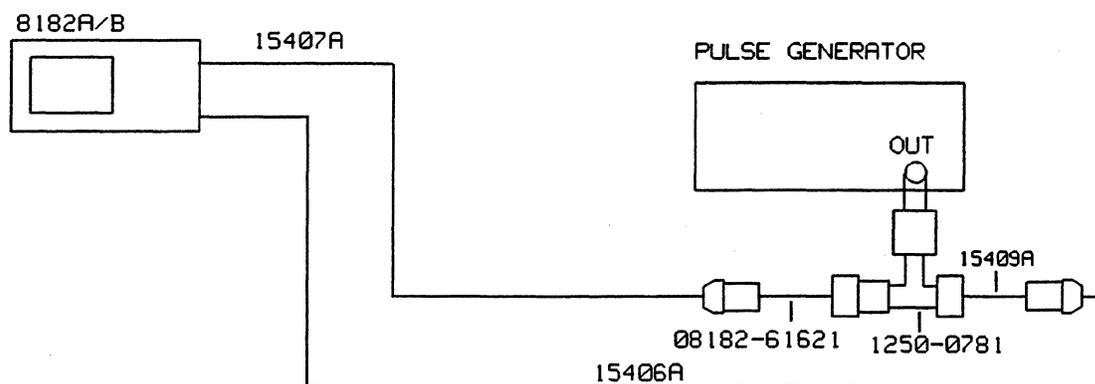

Figure 12-3. Test Setup for the Sampling Point Accuracy and Skew Test
9. Connect the equipment as shown in Figure 12-3 and press **RUN**. (Start with Connector 0 Channel 0.)